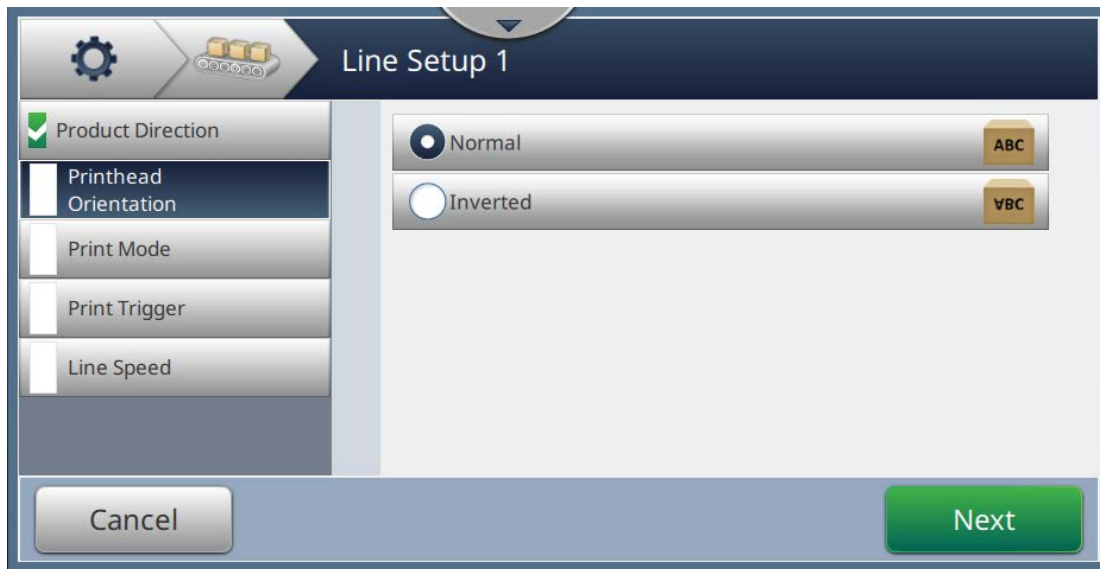

Figure 6-30: Line Setup - Printhead Orientation
1. Select the orientation of printhead as shown in Figure 6-30.